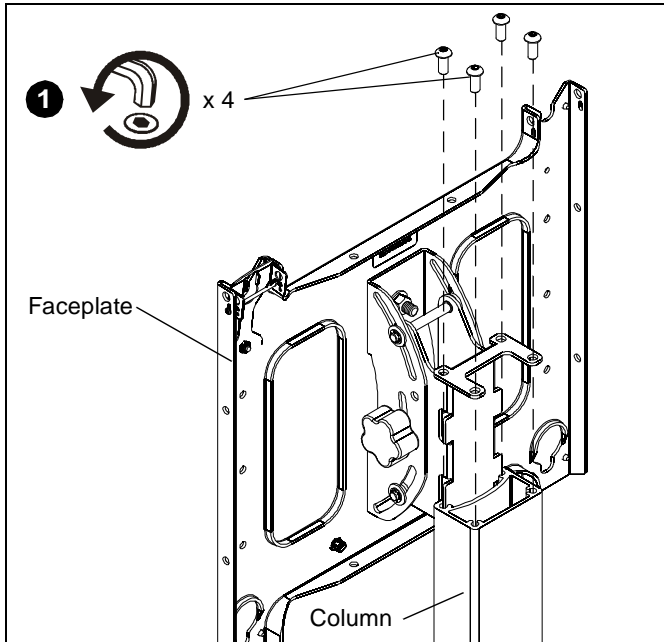

Figure 1
1. Remove and save four fasteners holding the faceplate on the cart or stand column, and remove faceplate. (See Figure 1)